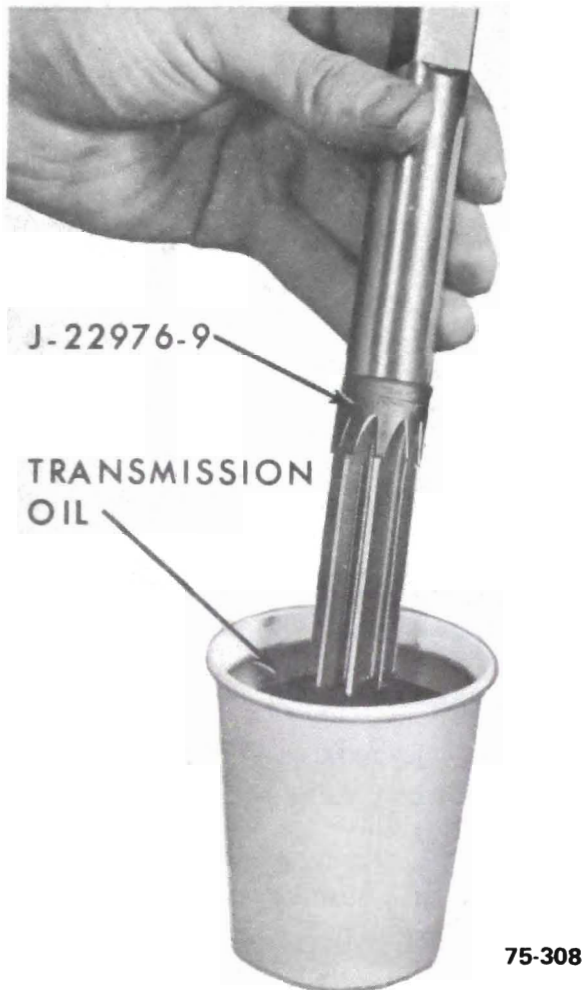

Figure 75-292
c. After each 10 revolutions remove the reamer and dip it into a cup full of transmission oil. This will clean the chips from the reamer and lubricate it. See Figure 75-292.